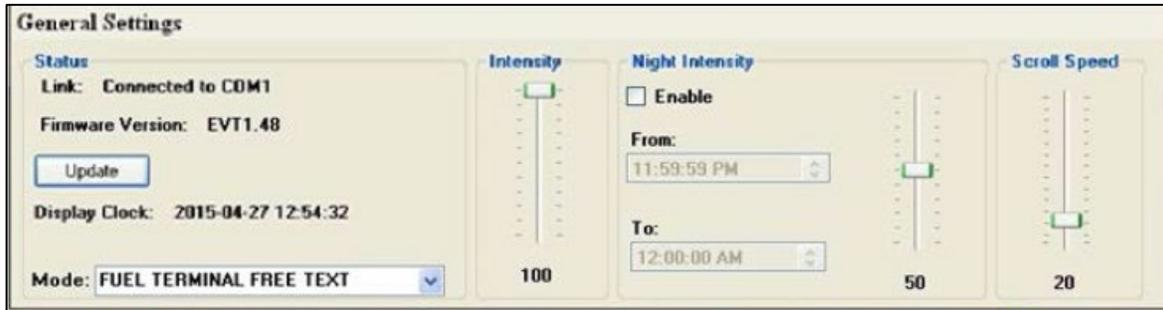

Figure 6
2. Select on the **Update** on the left side of the screen under General Settings. A Display Firmware Update Tool window will open (Figure 6).